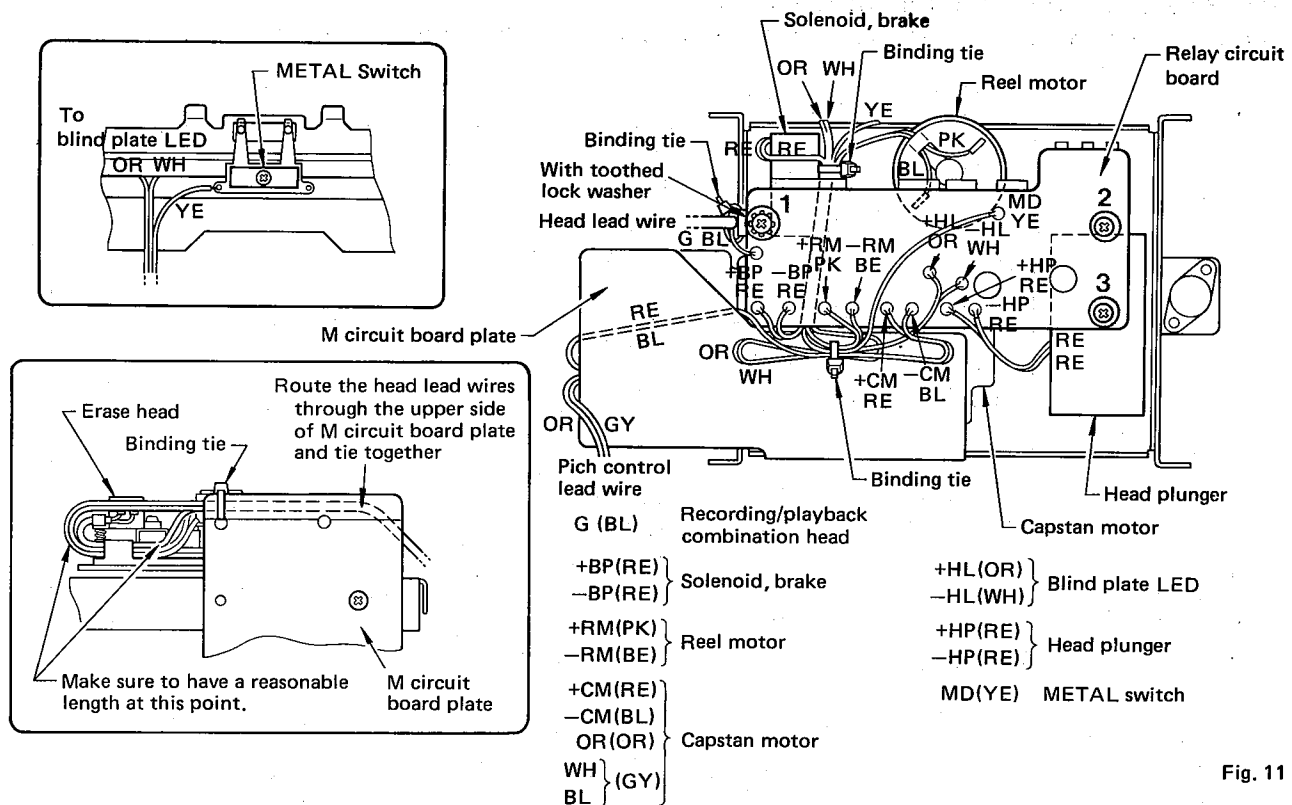

Fig. 11
- b. Remove screws ① through ③ in fig. 11 and then remove the relay circuit board.